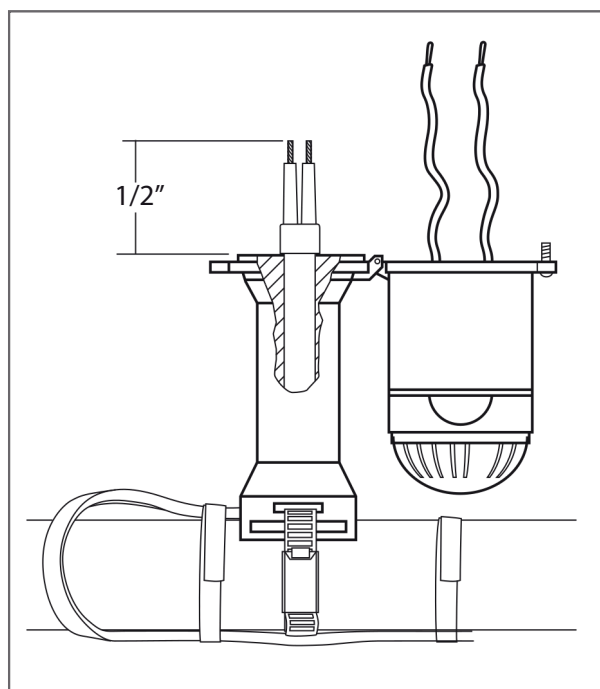

Figure 1.
16. Fasten the end seal stand to pipe with a pipe strap (not provided). **DO NOT PINCH THE HEATING CABLE!** (Be sure the pipe strap is under heating cable). Loop and tape the extra heating cable to the pipe as shown in Figure 1. Minimum bend radius is 3/4" (20)mm.